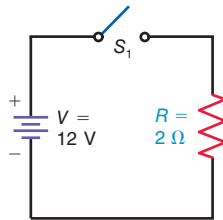

Figure 21-13
21.1 In Fig. 21-13, how long does it take for the current, I , to reach its steady-state value after S_1 is closed?
21.2 In Fig. 21-13, what is the current with S_1 closed?